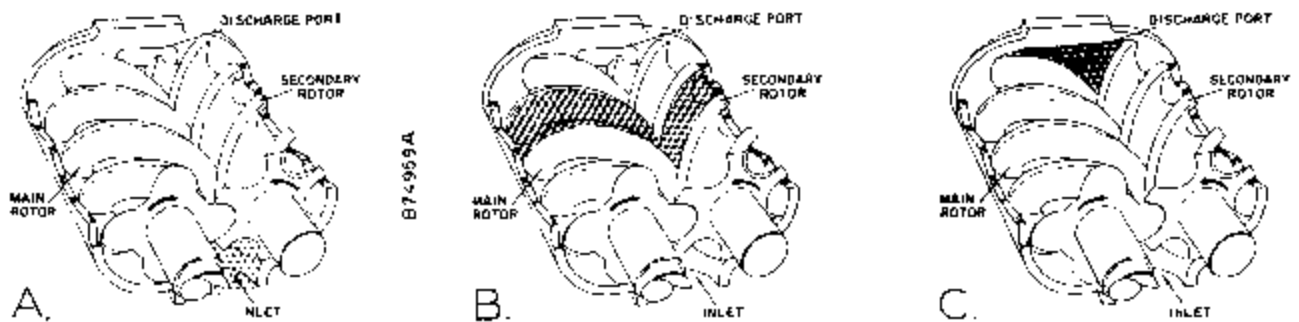

Figure 1-1 – COMPRESSION CYCLE
COMPRESSION PRINCIPLE (Figure 1-1) - Compression is accomplished by the main and secondary rotors synchronously meshing in a one-piece cylinder. The main rotor has four (4) helical lobes 90° apart. The secondary rotor has five (5) matching helical grooves 72° apart to allow meshing with main rotor lobes.
The air inlet port is located on top of the compressor cylinder near the drive shaft end. The discharge port is near the bottom at the opposite end of the compressor cylinder. *Figure 1-1, is an inverted view to show inlet and discharge ports.* The compression cycle begins as rotors unmesh at the inlet port and air is drawn into the cavity between the main rotor lobes and secondary rotor grooves (A). When the rotors pass the inlet port cutoff, air is trapped in the interlobe cavity and flows axially with the meshing rotors (B). As meshing continues, more of the main rotor lobe enters the secondary rotor groove, normal volume is reduced and pressure increases.